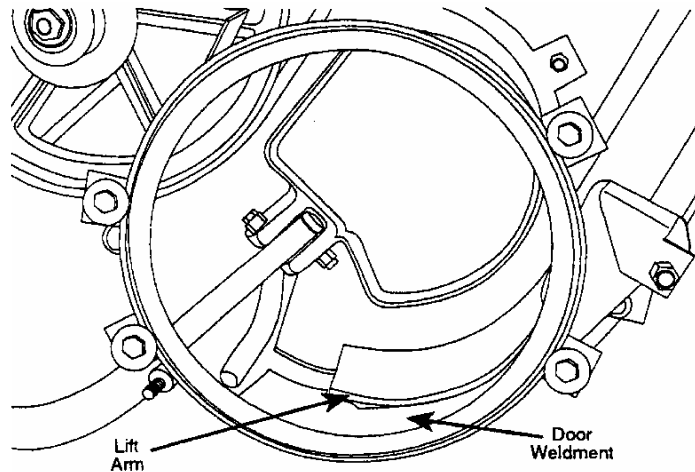
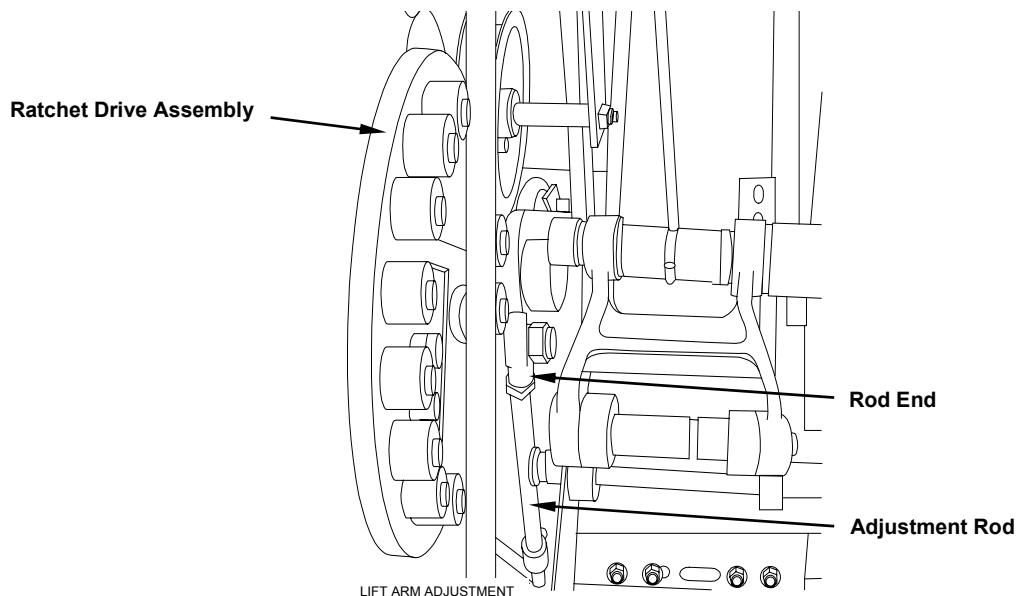

Figure 2-11
Figure 2-12
1. Measure the height of the lift arm above the door weldment (see Figure 2-11). This distance should be no more than 1/8 inch. Adjust this gap by adjusting the length of the rod that connects between the lift arm and the ratchet drive assembly (see Figure 2-12). The rod has right hand threads on both ends, so one end of the rod must be disconnected in order to make the adjustment. Shortening the rod raises the lift arm, lengthening the rod lowers the lift arm. Tighten the jam nuts after completing the adjustment.